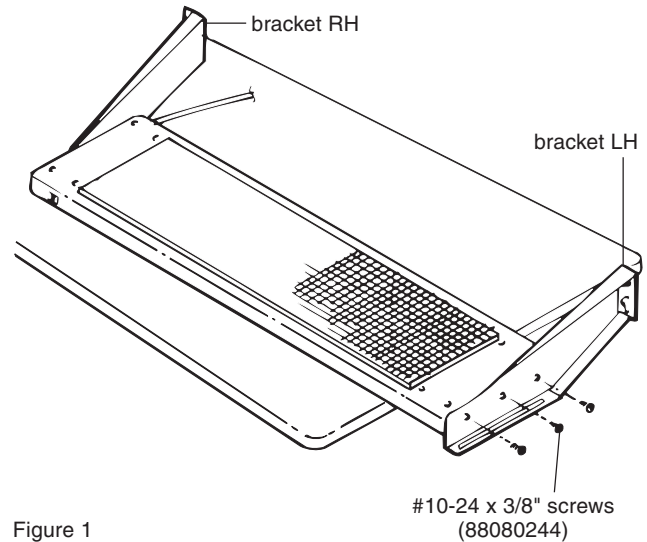

Figure 1
2. Position left-hand cantilever bracket with left side of light, aligning all holes. Install three (3) #10 x 3/8" phillips screws provided with a #1 phillips driver. Repeat with right-hand bracket. (Figure 1)